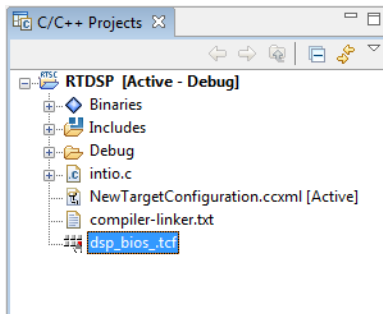
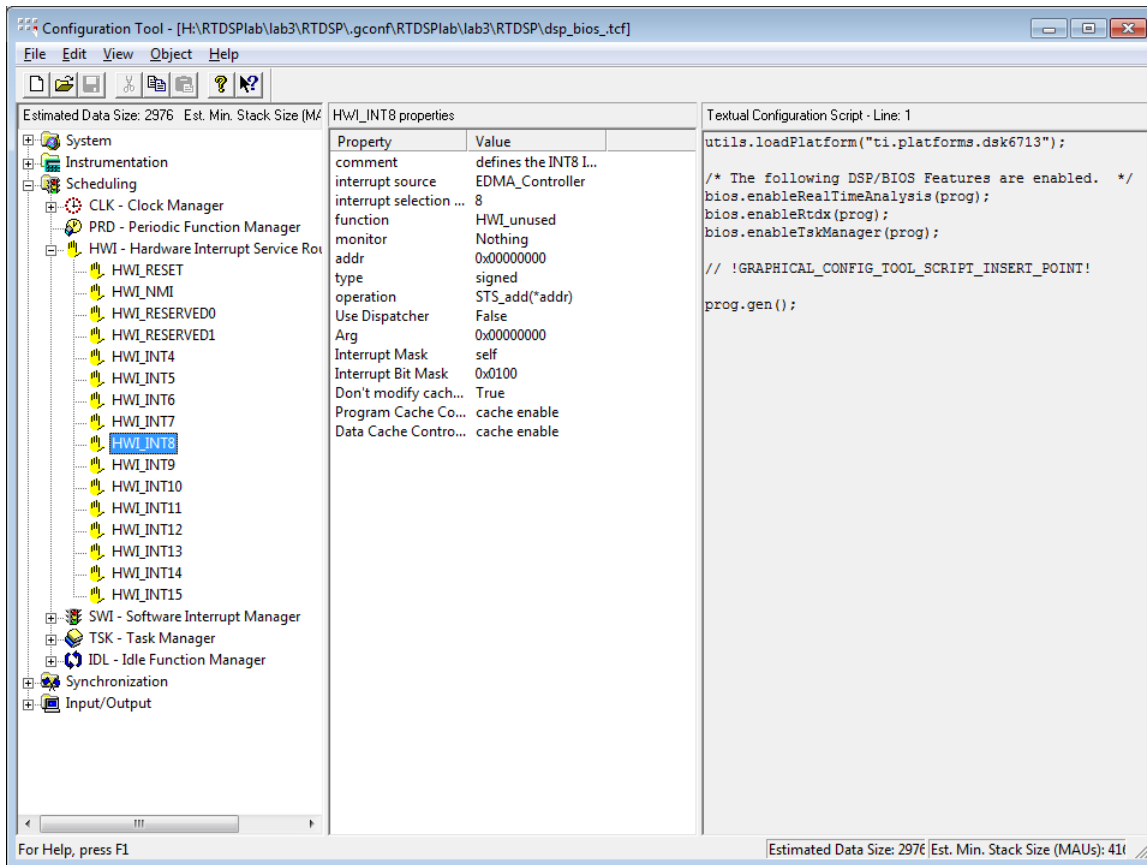

Figure 2: C/C++ Projects window showing tcf file.
Figure 3: Interrupt management window in the BIOS configuration tool
- The first step in configuring hardware interrupts is to setup the link between the physical interrupt and the ISR1 (which you are yet to write). Click on the C/C++ projects icon on the bottom of the CCS window. Double click on the *dsp\_bios.tcf* file (shown in figure 2) file to open the configuration tool. Expand the **Scheduling** directory in the configuration window by clicking the + symbol. Now expand **HWI** in a similar manner. You should see a window listing a number of interrupts as of figure 3 (there are 16 different interrupts in total). Before you link the audio port interrupts to some code I want to explain this window to give you a clearer understanding of interrupts.